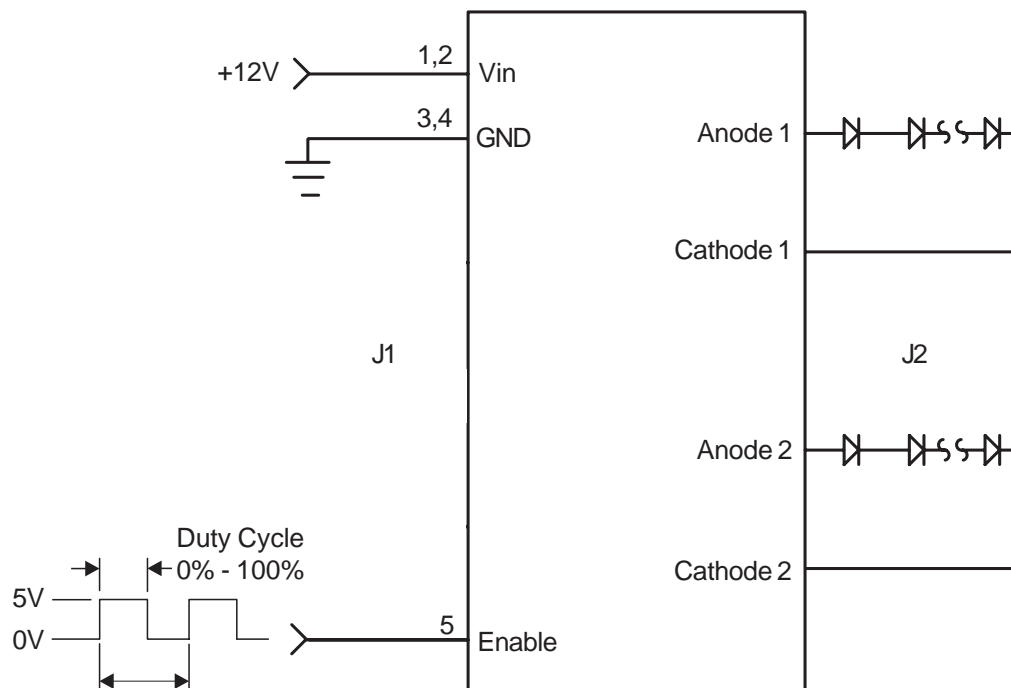

Figure 1
- OPERATION: External PWM configuration as shown in Figure 1 allows the user to control display brightness with an externally generated PWM signal. The user is responsible to provide the PWM signal. A dimming ratio up to 5000:1 at ≤ 200 Hz is possible with this configuration.